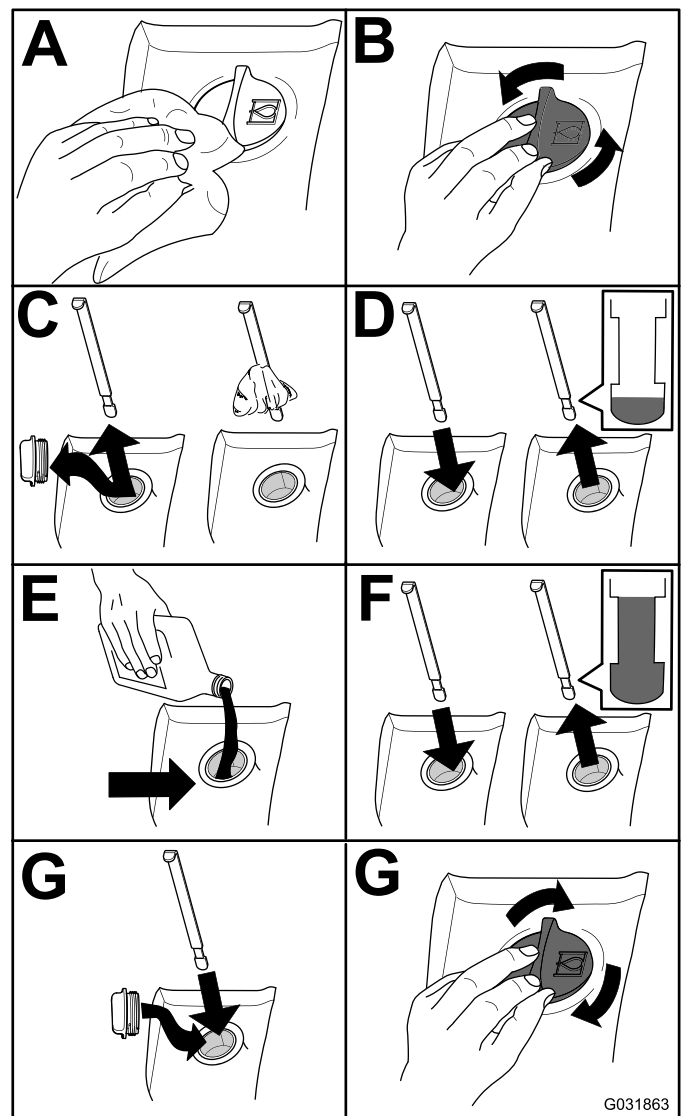

Figure 77
2. Check the hydraulic-fluid level (Figure 77).